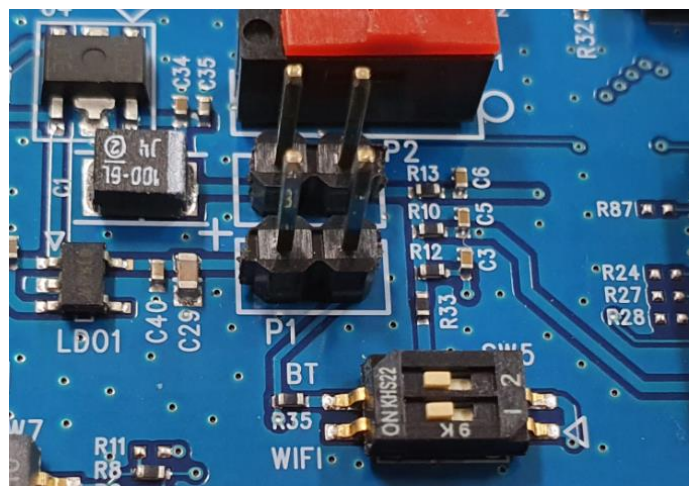

Figure 2: Setup DA16600 EVK Jumper
3. Open the DA16600 EVK's power two jumper caps as shown in Figure 2.